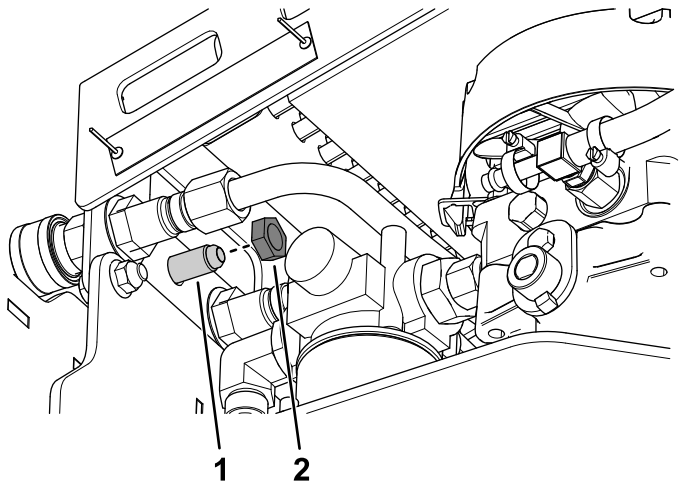

Figure 2
2. Secure the bulkhead fitting to the cooler cover using the previously removed jam nut (Figure 2).